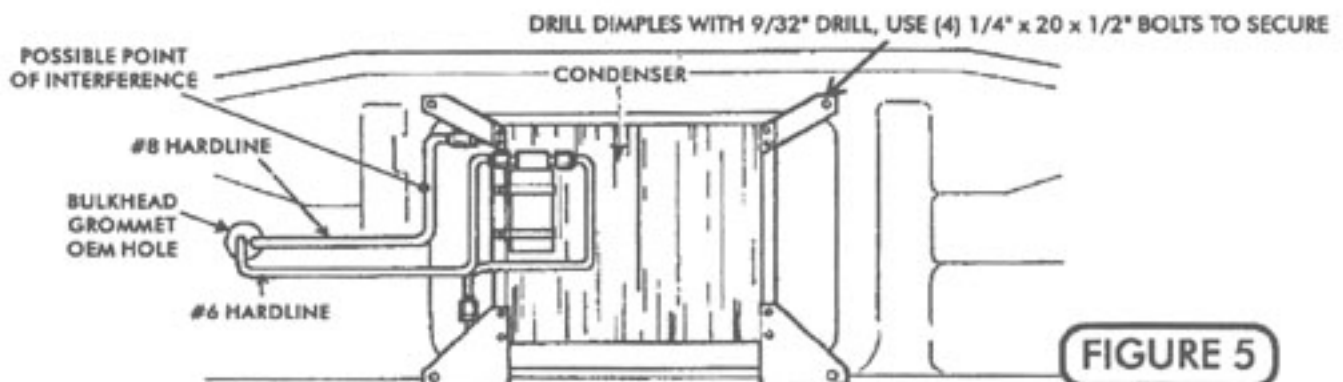

FIGURE 5
- LOCATE THE FOUR CONDENSER MOUNTING DIMPLES IN RADIATOR SUPPORT AND DRILL FOUR 9/32" HOLES. SEE FIGURE 5.
- ATTACH THE CONDENSER/DRIER ASSEMBLY TO THE FRONT SIDE OF THE RADIATOR SUPPORT USING FOUR 1/4" 20 x 1/2 INCH BOLTS, FLATWASHERS, AND LOCKNUTS. VERIFY THAT THE CONDENSER IS NOT TOUCHING THE RADIATOR. SEE FIGURE 5.
- INSTALL THE SUPPLIED BULKHEAD GROMMETS IN THE EXISTING OEM HOLE. (SEE FIGURE 5)
- INSTALL THE #8 (LARGER) CONDENSER HARDLINE. LUBRICATE THE FITTINGS AND O'RINGS WITH SUPPLIED REFRIGERANT OIL AND ATTACH THE LINE TO THE UPPER CONDENSER FITTING BY FEEDING THE LONG END THROUGH THE EXISTING HOLE IN THE RADIATOR BULKHEAD SUPPORT AND UNDER THE BATTERY BOX. SEE FIGURE 5 (THIS PAGE) & FIGURE 14 & 14B (PG.11).
- INSTALL THE #6 (SMALL) HARDLINE AND ATTACH IT TO THE DRIER FOLLOWING THE SAME PROCEDURE AS ABOVE. SEE FIGURE 5.